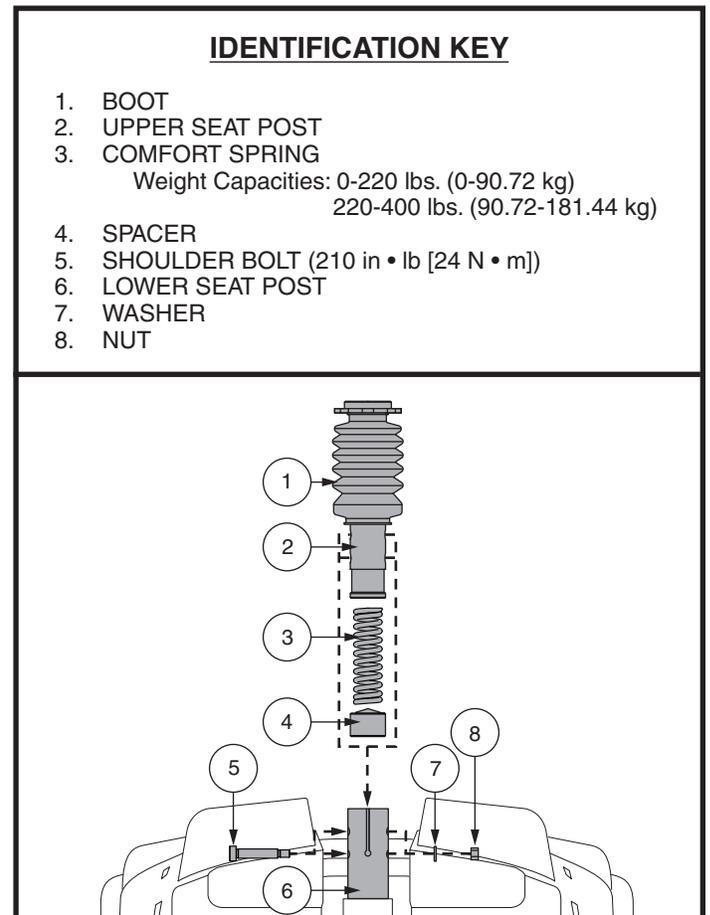

Figure 22. Seat Height Adjustment - Comfort Seat Post
4. Push down on the seat post while loosening and removing the shoulder bolt, washer, and nut. See figure 22.
6. Install the desired spring. **See figure 22.**